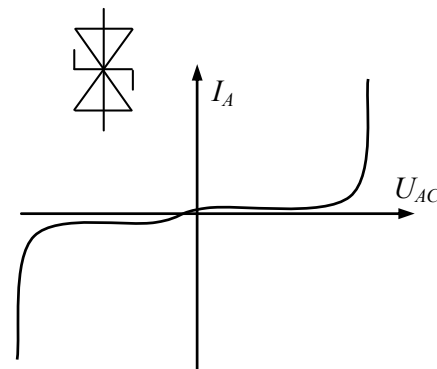

Fig. 1.13
**Bi-directional breakdown diode.** Lightning, power-line faults, etc. can pollute the line voltage by superimposing dips, spikes, and other transients on the normal voltage. *Dips* are severe voltage drops lasting microseconds or less. *Spikes* are short overvoltages of 500 or more than 2000 V. One of the devices used for line filtering is a set of two reverse-parallel-connected Zener diodes with a high breakdown voltage in both directions known as a *transient suppressor* or *voltage suppressor* (Fig. 1.13). It contains a pair of Zener diodes that are connected back-to-back, making the voltage suppressor bi-directional. This characteristic enables it to operate in either direction to monitor under-voltage dips and over-voltage spikes of the ac input. It is used as a filtering device to protect voltage-sensitive electronic devices from high-energy voltage transients. The voltage suppressor is connected across a primary winding of transformers to clip voltage dips and spikes and protect the equipment. The voltage suppressor must have extremely high power dissipation ratings because most of surges in ac power line contain a relatively high amount of power, in the hundreds of watts or higher. It must also be able to turn on rapidly to prevent damage to the power supply. In dc applications, a single unidirectional voltage suppressor can be used instead of a bi-directional voltage suppressor. It is shunt-connected with the dc input and reverse biased (cathode to positive dc). Often, a *varistor* (nonlinear voltage-dependent resistor) is used instead of the breakdown diode.